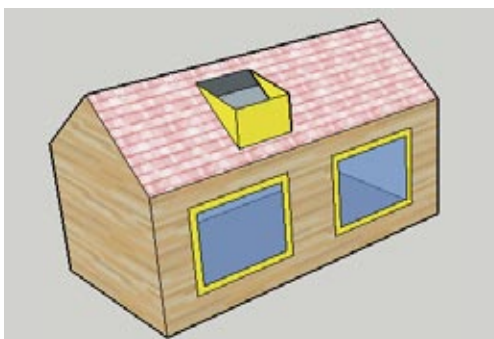

Figure 5-19
7. Hide the top face of the dormer and cut a hole in the roof below the dormer (Figure 5-19).